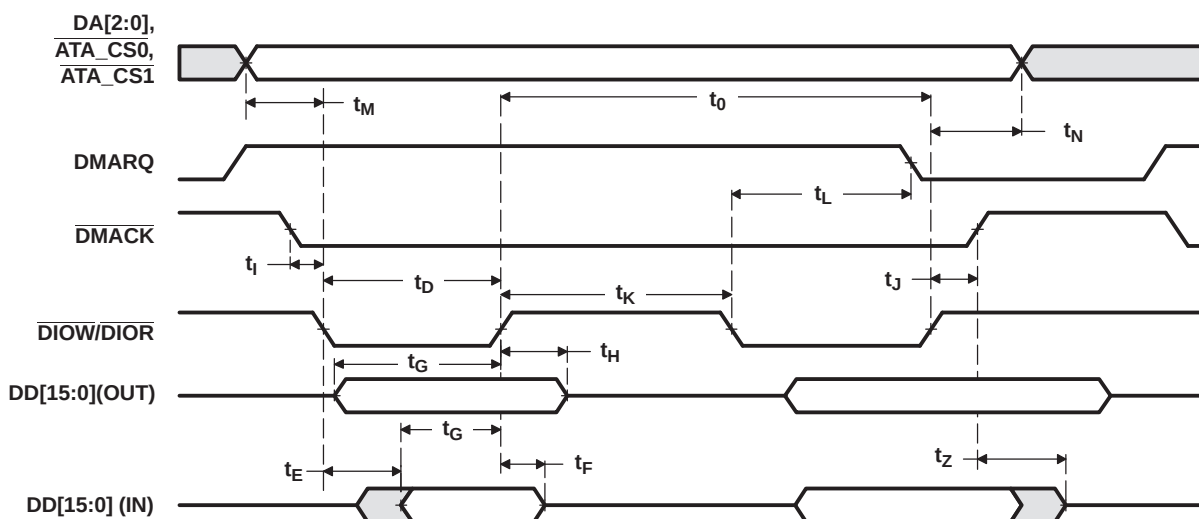

Figure 7-65. ATA Multiword DMA Timing
Table 7-91. Timings for ATA Module — Multiword DMA AC Timing^{(1) (2)} (see Figure 7-65)